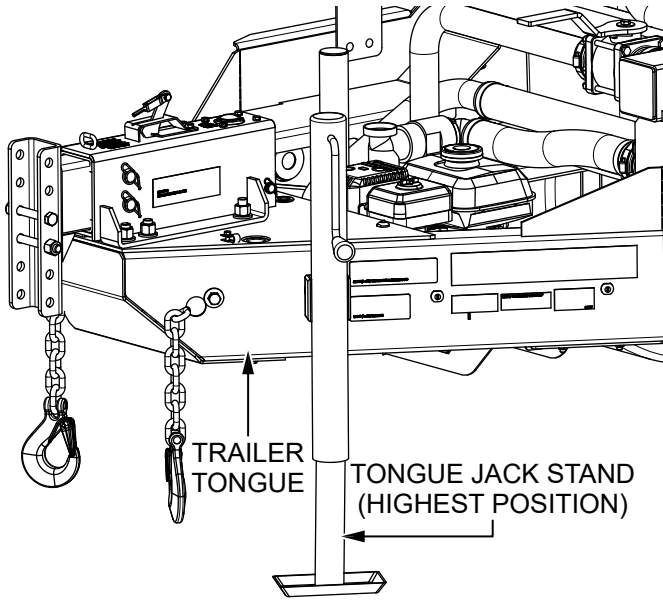

Figure 2. Raise The Trailer Tongue
4. Raise the **trailer tongue** (Figure 2) by placing the **trailer tongue jack stand** in the highest position.